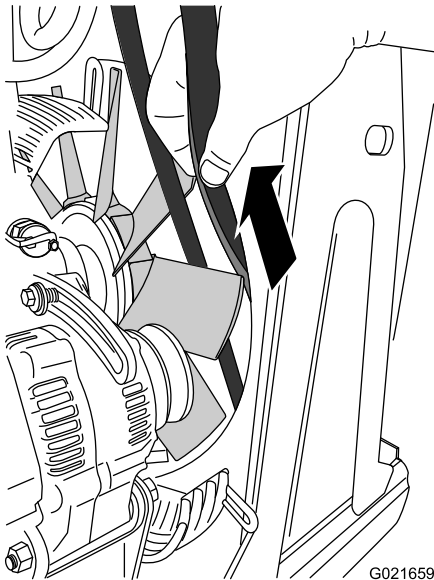

Figure 91
11. Align the belt between 2 of the fan blades, then carefully pull the belt rearward and up until you can remove it from the machine (Figure 91).
1. Align the belt between 2 of the fan blades, and carefully push the belt forward and down until it is in front of the fan (Figure 91).